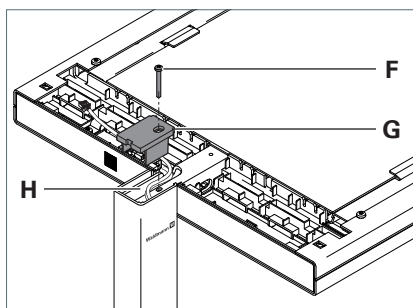

Fig. 3: Fixing the luminaire head in place.
- Place the cover **G** onto the supporting arm from above, see Fig. 3.